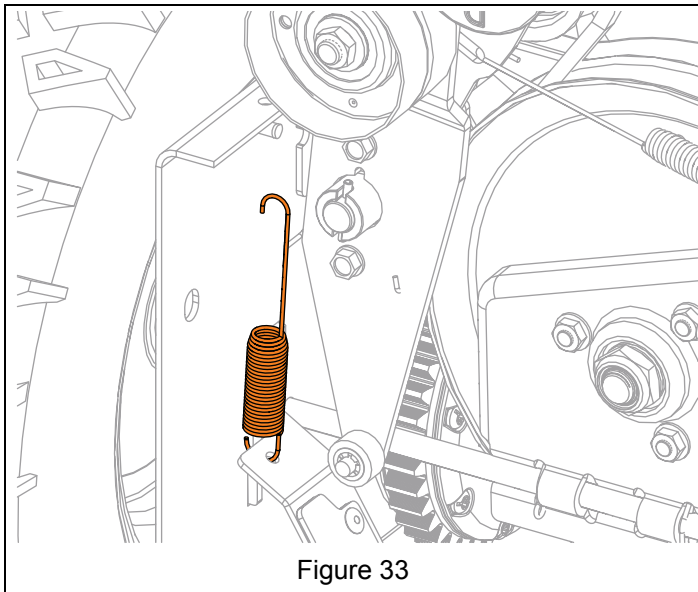

Figure 33
4. Remove attachment brake spring from frame. See Figure 33.